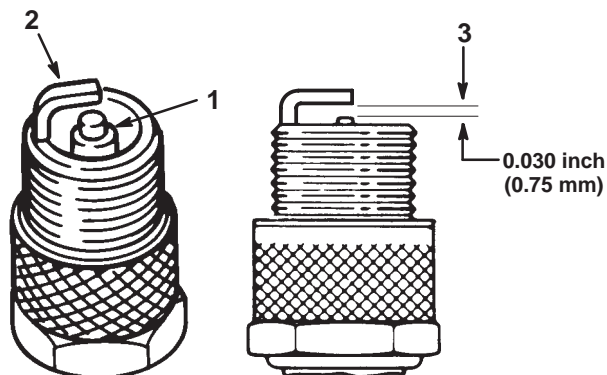

Figure 37
1. Look at the center of the spark plugs (Fig. 37). If you see light brown or gray on the insulator, the engine is operating properly. A black coating on the insulator usually means that the air cleaner is dirty.
3. Check the gap between the center and side electrodes (Fig. 37). Bend the side electrode (Fig. 37) if the gap is not correct.